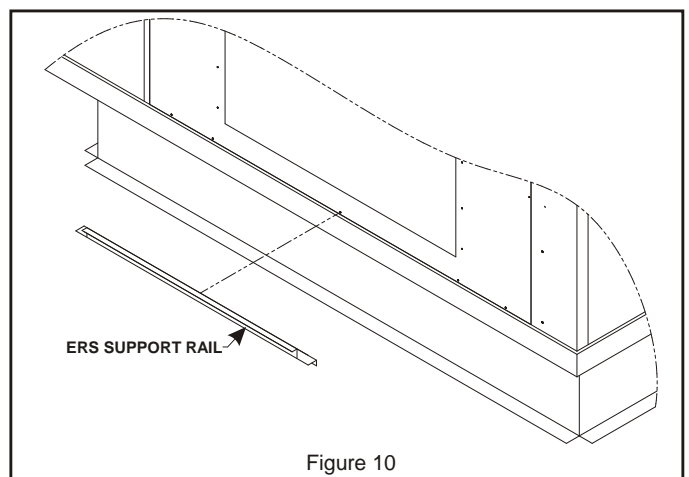

Figure 10
3. Position ERS support rail with notched flange pointing away from rooftop unit. Center ERS support rail by using the center hole of rail and aligning it with the center hole in the base pan of the return opening. Use (5) of the 14-16 x 3/4" screws provided to secure rail to base of unit. Apply 3/4" x 1 1/4" gasket along face of the ERS support rail. **See Figure 10.**